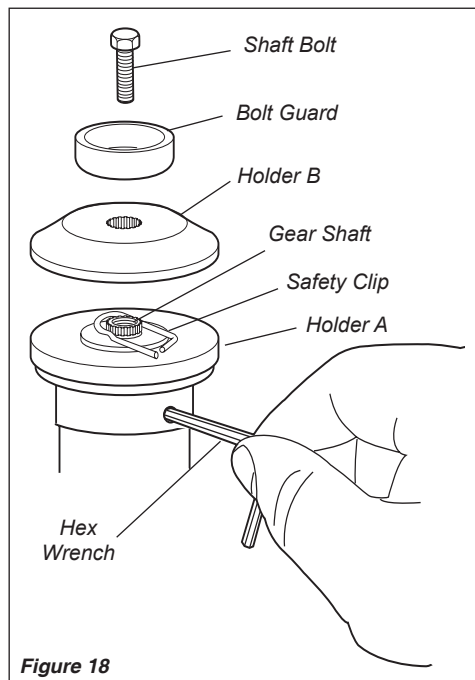

Figure 18
1. Align the hole in blade Holder A with the matching hole in the gearcase flange and then temporarily lock the output shaft by inserting a hex wrench through both holes. See Figure 18.